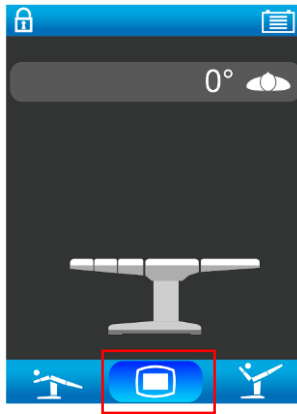

Figure 2-21 Store position
2. As Figure 2-21 shows, press “confirm” button to enter the menu.